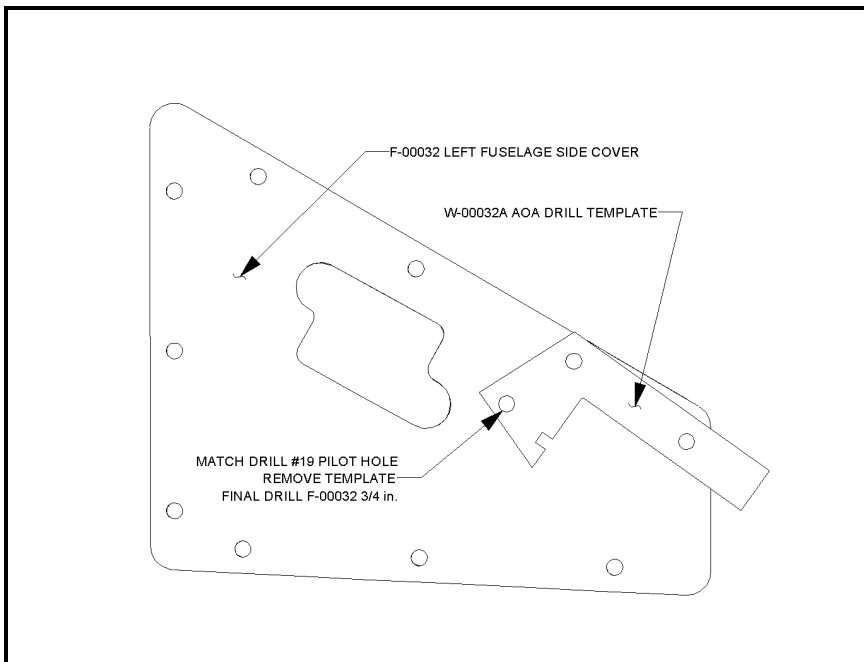

Figure 9: W-00032A AOA Drill Template located on left F-00032 Fuselage Side Cover.
Step 30: Attach the W-00032A AOA Drill Template to the outside of the left F-00032 Fuselage Side Cover using #8 screws and nuts, see Figure 9.